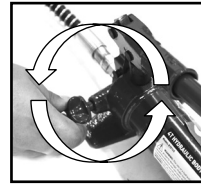

Fig.13
3. Turn the release valve (9) counter clockwise to release the pressure (Fig 13).